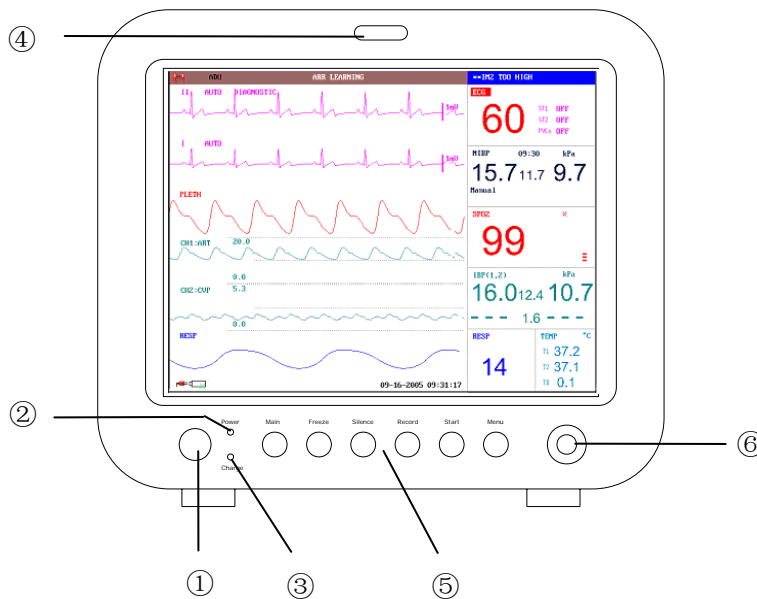

Figure 3-1 M9 Patient Monitor
The **POWER** switch is on the left of the front panel (Figure 3-1, 3-2 ①). The **POWER** indicator lights when the monitor is powered on (Figure 3-1, 3-2 ②). The **CHARGE** indicator shows the charging status (Figure 3-1, 3-2 ③). The **ALARM** indicator flashes when the alarm is triggered (Figure 3-1, 3-2 ④). The sockets of various sensors are on the left panel. Other sockets and the power plug-in are on the rear panel. The recorder is on the right panel.
The monitor is a user-friendly device with operations conducted by a few buttons and a rotary knob on the front panel (Figure 3-1, 3-2 ⑤⑥). Refer to 3.3 **Button Functions**.